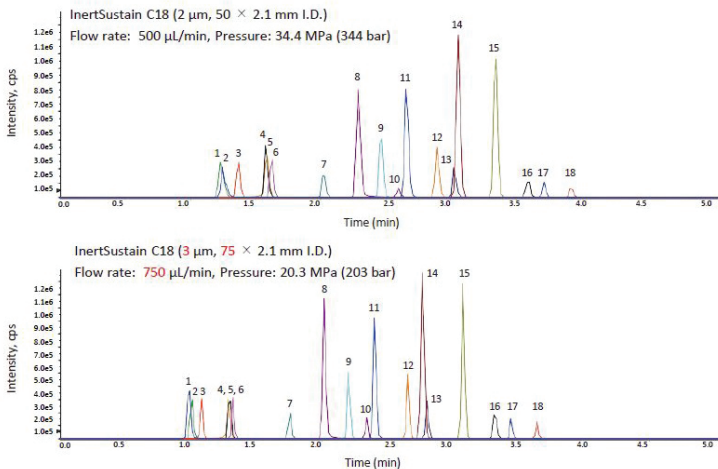

Figure 1-7. Comparison between 2 µm- and 3 µm-particles.
If there is a dead volume between the tubing and the column, peaks are distorted. This also happens when the relative volume of the tubing to the column is large. Columns with a small internal diameter (ID) or a short length are easily affected. To reduce the effect of the dead volume, using long columns is one solution. Figure 1-7 shows a comparison between a 50 mm long column packed with 2 µm particles and a 75 mm long column packed with 3 µm particles. With the longer column length, even larger particles provide better peaks because the effect of the dead volume is less significant.